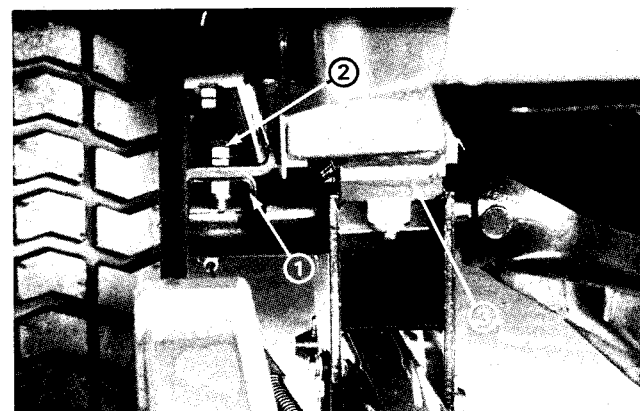

Figure 4
10. A transmission that is too high at the drive coupling end may be lowered by installing an Axle Shim (Toro part 42-6080) between the rear of the differential mounting pad and the bottom of the frame (Fig. 4). A transmission that is too low is corrected by installing a spacer between the front of the mounting pad and the bottom of the frame.